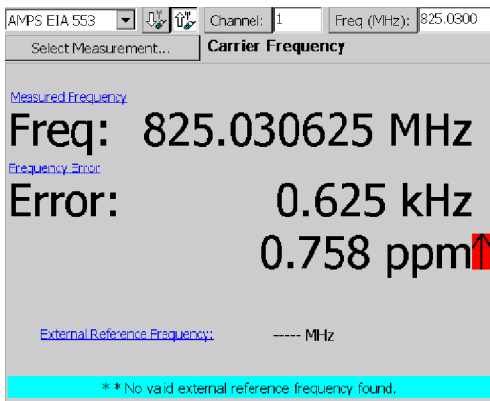

Figure 3-43: A Carrier Frequency display
5. Tap **Carrier Frequency**. See Figure 3-43.